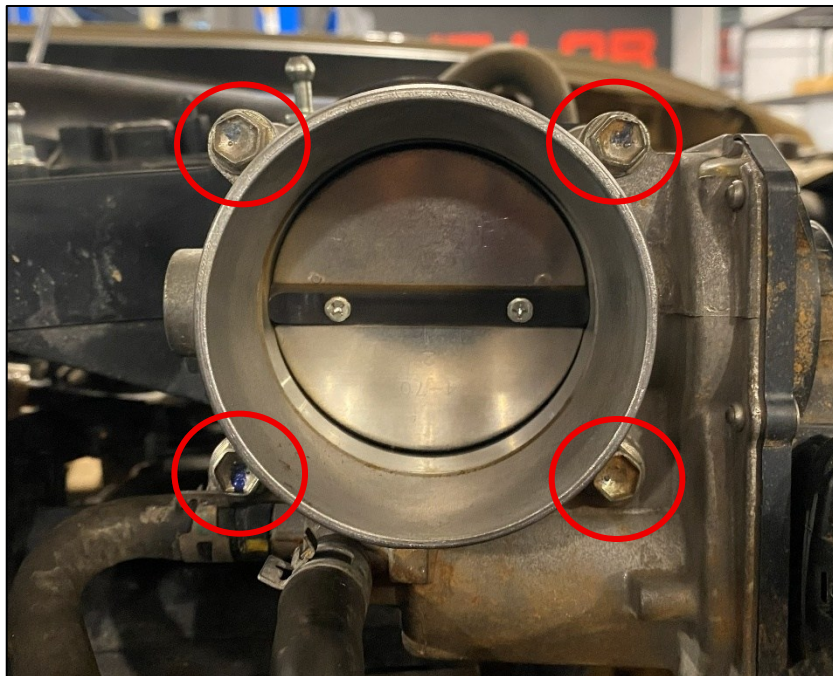

Figure 2
- Remove the (4) four bolts securing the Throttle Body to the Upper Manifold. Once the Throttle Body is loose, it can be moved aside in the Engine Bay. *Figure 2.*